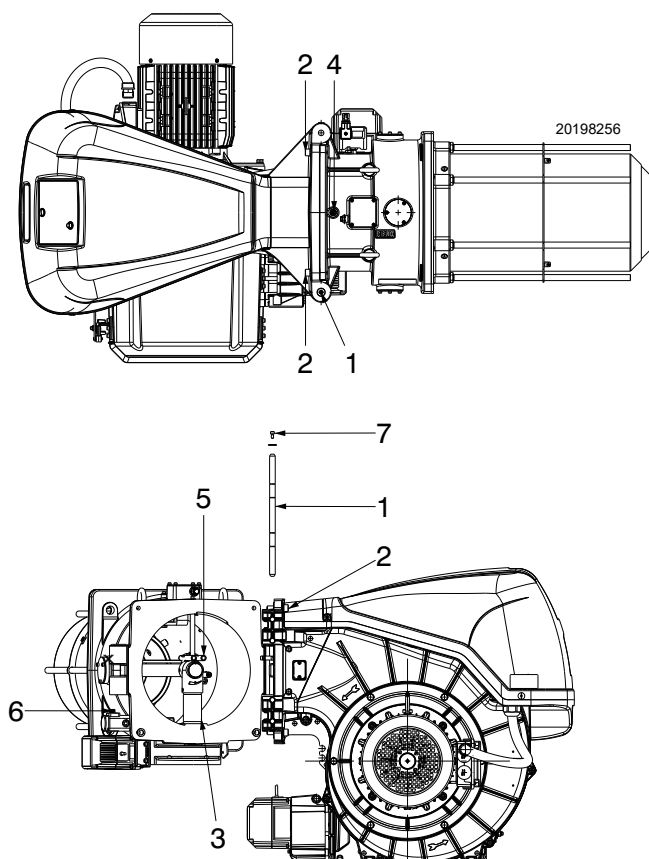

Fig. 14
The burner leaves the factory set for opening to the right, therefore maintaining the pin 1)(Fig. 14) in the housing.
- A disconnect the plug/socket 6)(Fig. 14) of the maximum gas pressure switch;
- D fully open the burner as in Fig. 14;
To open the burner from the opposite side, before removing the pin 1)(Fig. 14), make sure that the 4 screws 2) are tight.